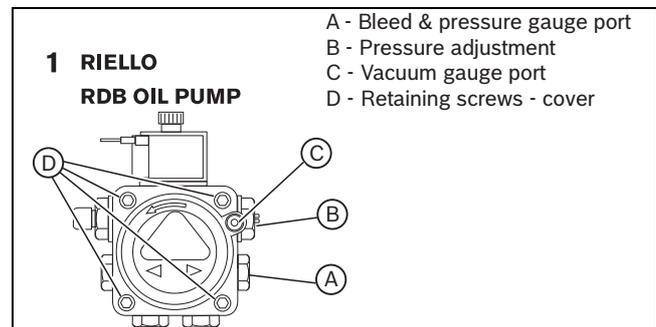
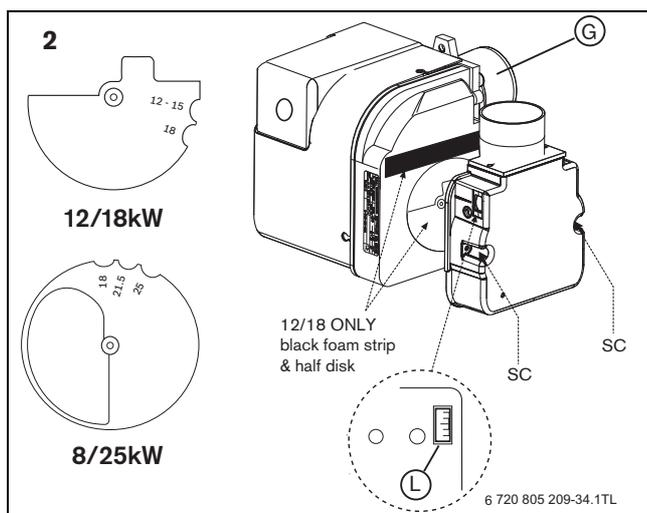

Fig. 56
Fig. 58
2. Fit a suitable pressure gauge to port [A] on the oil pump (refer to figure 56).
Adjust position of the air damper disc to suit the burner output (→ table 8 on page 36), located as shown in figure 58. Access is by loosening the two star screws (SC) to release the air inlet manifold.
- ▶ Adjust the air shutter [L] (see figure 58) and pump pressure [B] as shown in figure 56. The burner should ignite following a pre-ignition period of approximately 15 seconds.